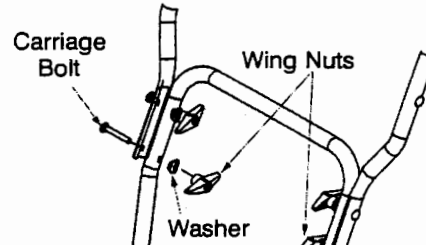

FIGURE 3
- Secure the upper handle and lower handle with the two plastic wing nuts, cupped washers and carriage bolts previously removed. See Figure 3.